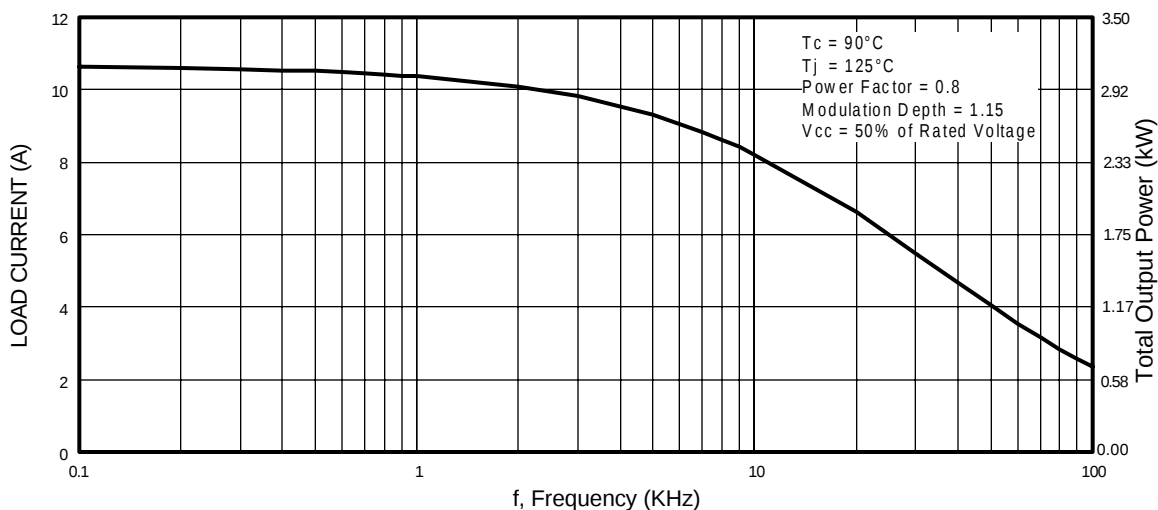

Fig. 1 - Typical Load Current vs. Frequency
See Fig. 1 for Current vs. Frequency curve
6.7 A_{RMS} per phase (1.94 kW total) with $T_C = 90^\circ\text{C}$, $T_J = 125^\circ\text{C}$, Supply Voltage 360Vdc, Power Factor 0.8, Modulation Depth 115% (See Figure 1)